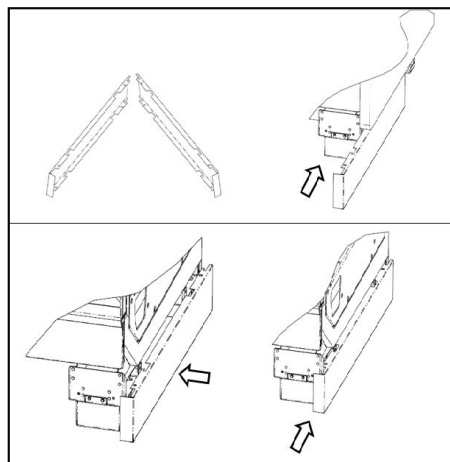

Fig. 75 End view of front kickplate install
2. Slide the end kickplate front to rear, under the end of the case (Fig. 75). When the front flange is about $\frac{9}{16}$ " from the base foot, slide it (the front flange) the rest of the way under the case also – then slide the whole kickplate the final $\frac{9}{16}$ " rearward so that the metal tabs nest behind the case base feet (included with the ship-loose parts). The front flange of the end kick-plate is held in place when the front kick-plate is installed in the next step.